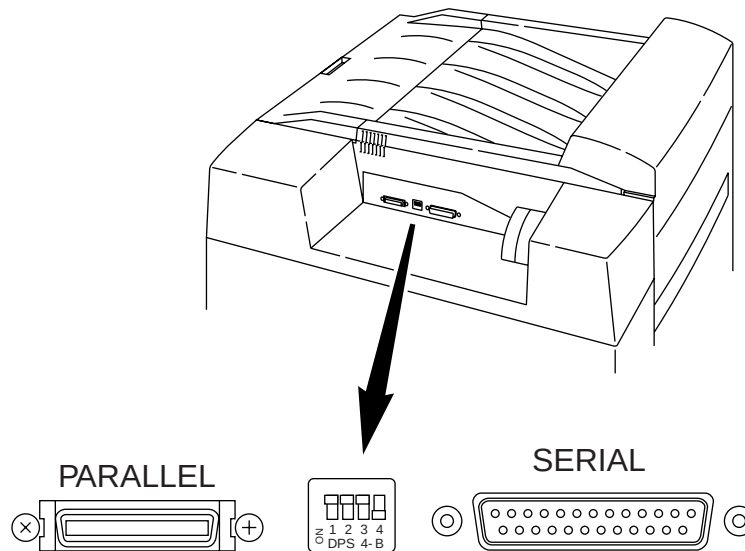

Figure 3-3 Main Controller Board DIP Switches
- Step 3** Set DIP switch 4 to On (down position). Leave all other switches Off (up position). See Figure 3-3. The switches should be set to the following: